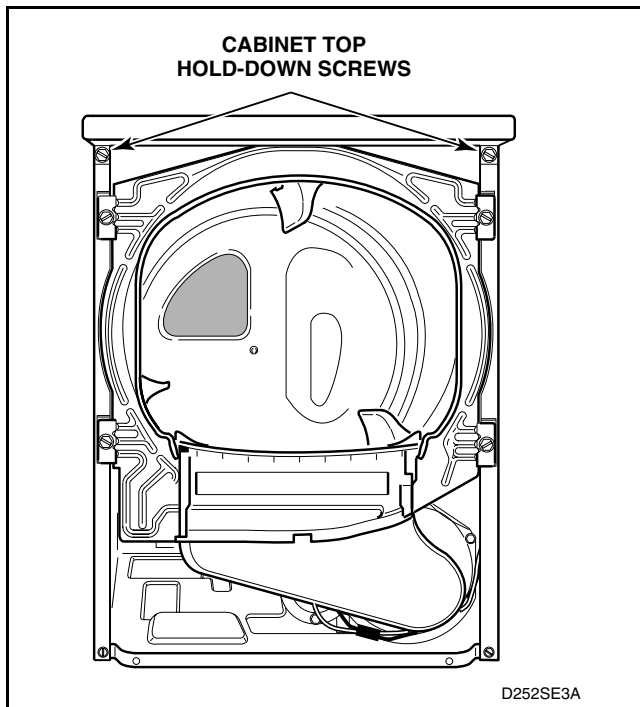

Figure 13
- m. Remove two cabinet top hold-down screws. Refer to *Figure 13*.
- l. Remove two cabinet top hold-down screws. Refer to *Figure 13*.